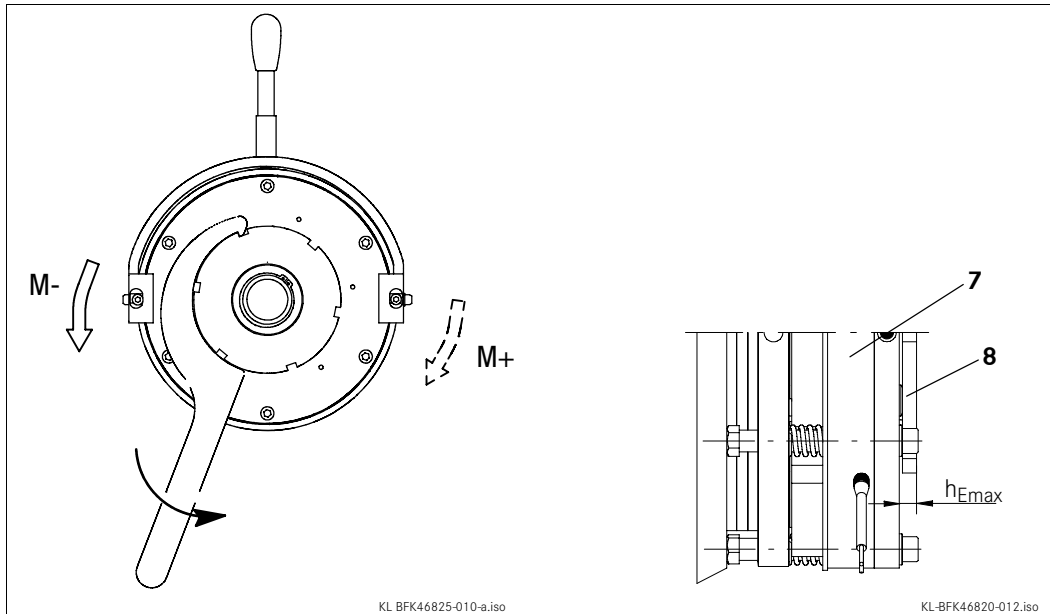

Fig. 17 Brake torque adjustment
1. Pull the lever (Fig. 17) with approx. 250 N until the resistance increases strongly.